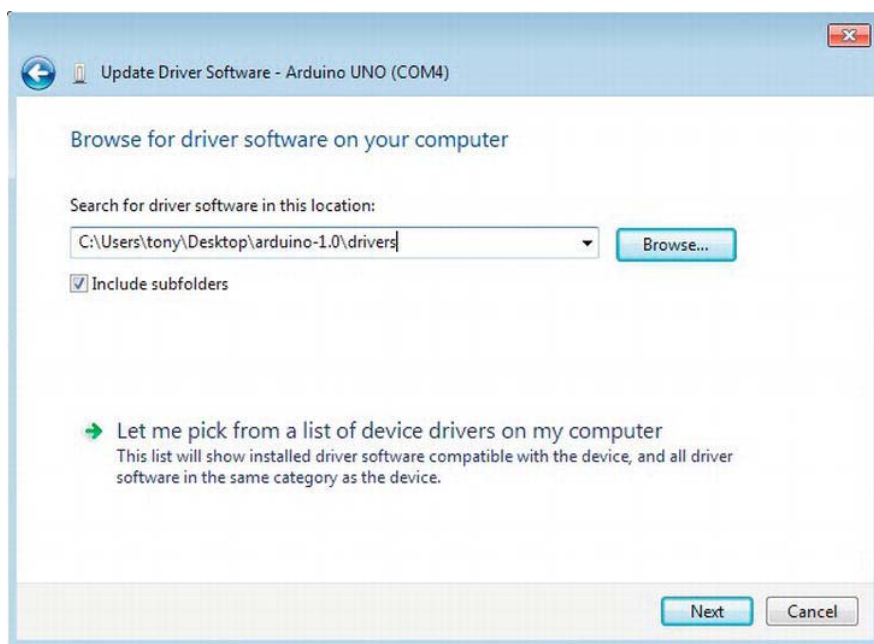

Figure 2-2. Windows driver installation
5. Navigate to your Arduino IDE folder. Inside the Arduino folder, you will find the drivers folder, which you should mark. Do not mark the FTDI USB Driver folder since the drivers for Arduino Uno are not inside this one. The driver update screen should now look like Figure 2-2.